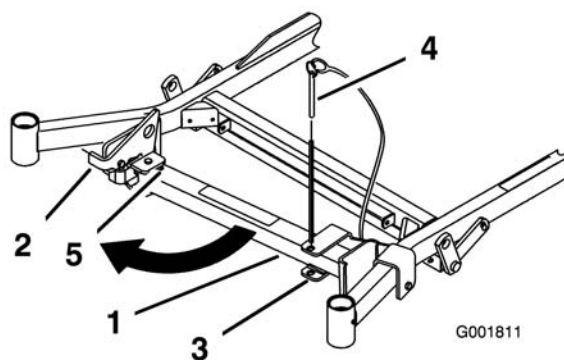
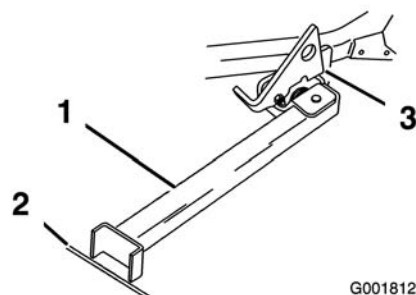

Figure 32
Figure 33
2. Remove the bracket pin (Figure 32).
3. Raise the latch. Swing the stand foot out front and slide stand toward machine, into the bottom of slot (Figure 32 and Figure 33).
4. Set the foot of stand on the ground and rest the latch on the pivot tab (Figure 33).
- Note:** For best results, place the foot of stand into seams in sidewalks or into the turf (Figure 33).
6. Drive onto the stand. Stop when the latch drops over the tab into the locked position (Figure 33). Once onto the stand, engage the parking brake and turn off the engine.
5. Return the stand to its rest position (Figure 32).